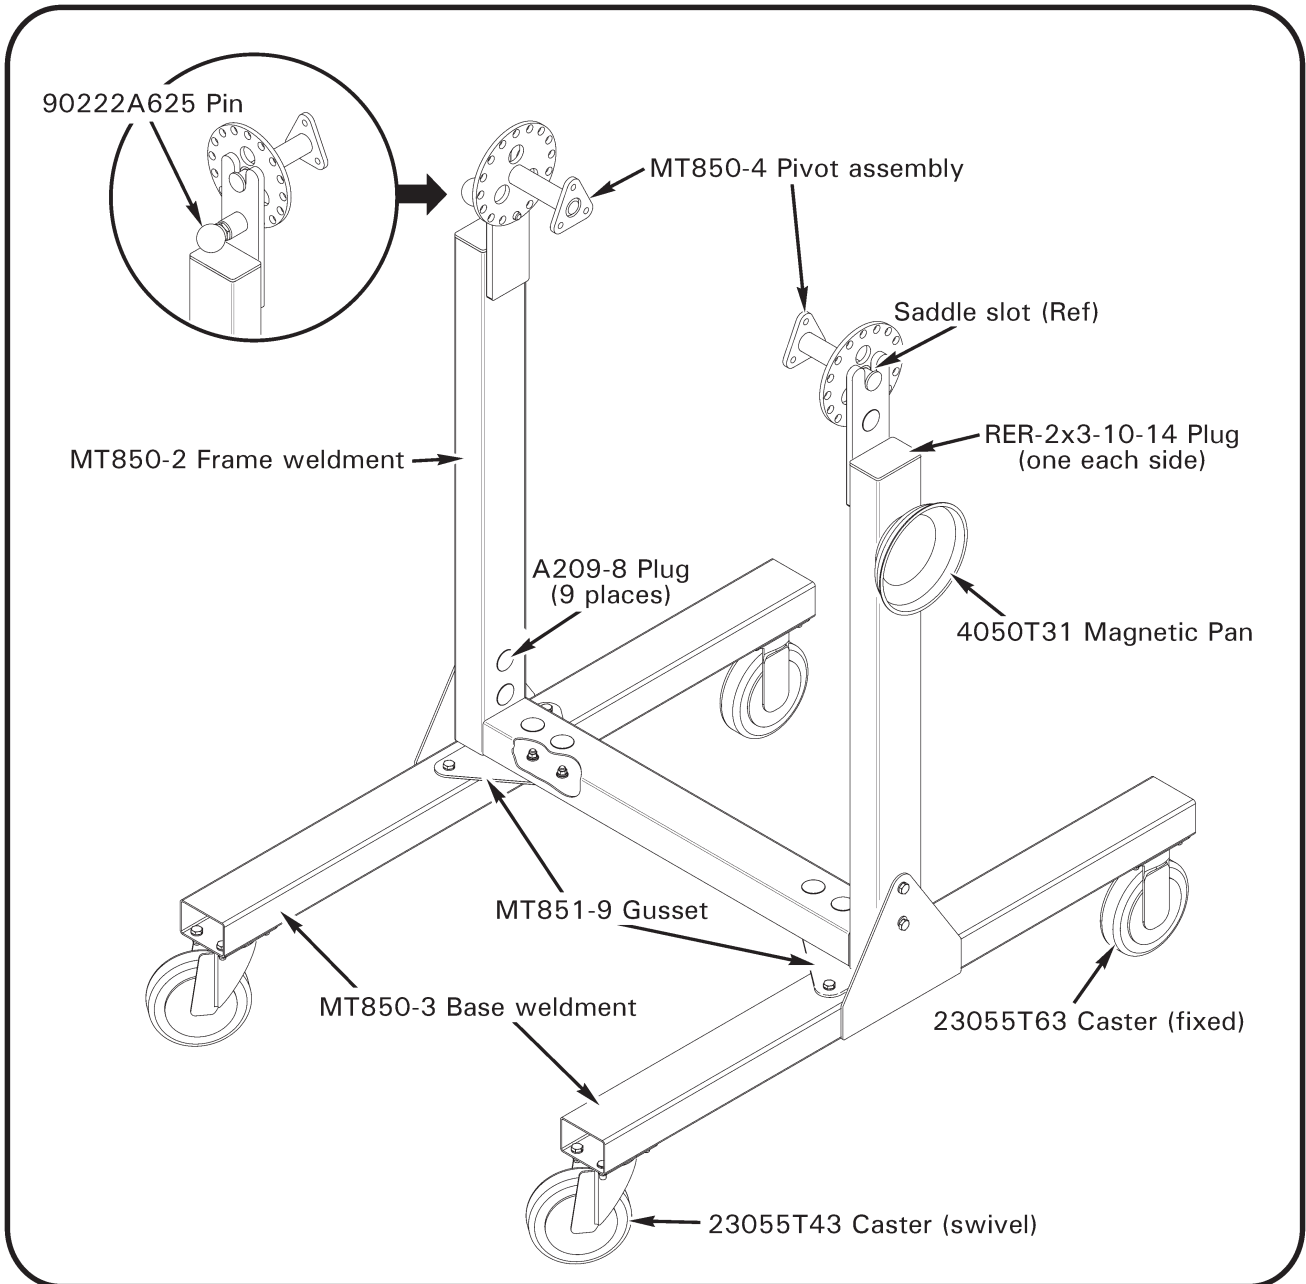

FIGURE 1
1. Refer to Figure 1. Install MT851-9 gusset, one each side, to MT850-2 frame weldment using (4) 92865A105 bolts, (8) NAS1149F0563P washers, and (4) 95462A510 nuts with gusset and bolt heads on bottom of frame weldment.
2. Install MT850-2 frame weldment to MT850-3 base weldments using (8) 92865A105 bolts, (16) NAS1149F0563P washers, and (8) 95462A510 nuts.
3. Install two 23055T43 casters (fixed) and two 23055T63 casters (swivel) to MT850-3 base weldments using (16) 92865A105 bolts, (32) NAS1149F0563P washers, and (16) 95462A510 nuts, ensuring mating casters are installed on same ends of base weldments.
4. Torque (28) 95462A510 nuts to 175 in.-lbs.